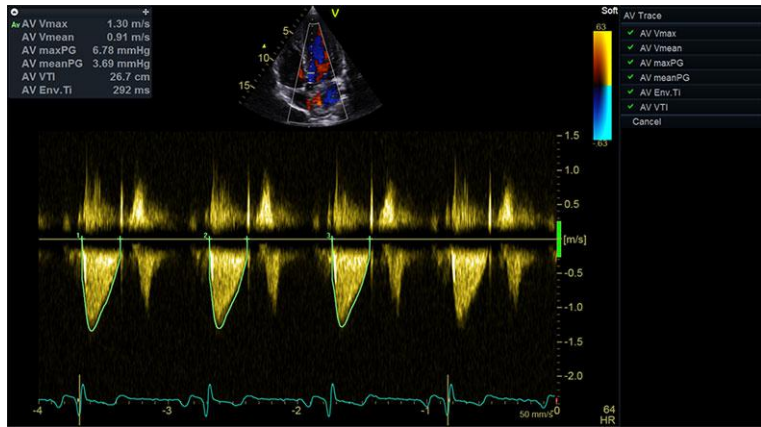

Figure 8-34. Cardiac Auto Doppler Measurement screen
2. The generated trace is created and average measurement values are displayed, see Figure 8-34.